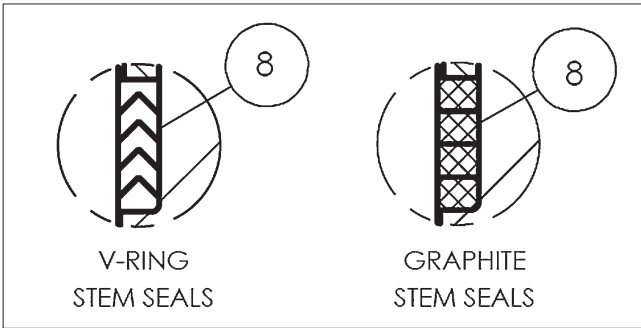

Figure 8. Stem Seal Orientation
8. Insert the stem (4) through the body cap end of the body (1), being careful not to scratch the stem sealing surface; and press it gently up into the stem bore until resistance is felt from the thrust bearing. Hold the stem in place from the bottom and insert the stem seals (8) (see **Figure 8** for proper v-ring orientation), over the stem (4).
10. Insert the stem subassembly into the *Emission-Pak* housing (101). Pull the stem outward to seat the thrust bearings. Install one set of stem seals (104) and lantern ring/spacer (103) over the stem as shown in (**Figure 8**). For optimal performance, pre-compress the first set of stem seals.
11. Install the compression ring (111) and compression plate (20) over the stem. Using stud nut (30), apply the torque value listed in (**Table 3**).
12. Remove the stud nuts (30), compression plate (20), and compression ring (110) from *Emission-Pak* housing.
13. Install the top set of stem seals (104) over the stem as shown in (**Figure 8**).
14. Hold the stem in place and slide the compression ring (111) and compression plate (20) over the stem (4) and studs (29).